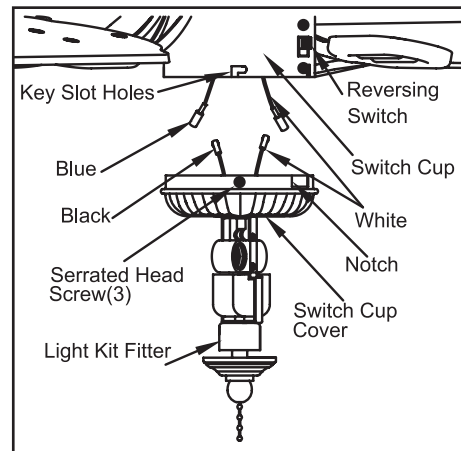

Figure 12
1. Loosen the three serrated head screws on the switch cup cover of the light kit fitter (Figure 12).
3. Align the three serrated head screws on the switch cup cover of the light kit fitter with the three key slots in the switch cup. Make sure the notch in the switch cup cover of the light kit fitter clears the reversing switch in the switch cup. Position the light kit fitter on the switch cup and turn it clockwise until it locks. Tighten the three serrated head screws that were loosened in step 1 to secure the light kit fitter (Figure 12).
3. Align the three screw holes in the switch cup cover with the three key slots in the switch cup. Make sure the notch in the switch cup cover clears the reversing switch in the switch cup (refer to Figure 12 on page 7).
The reversing switch installed in the switch cup (refer to figure 12 on page 7) controls direction: forward (switch down) or reverse (switch up).